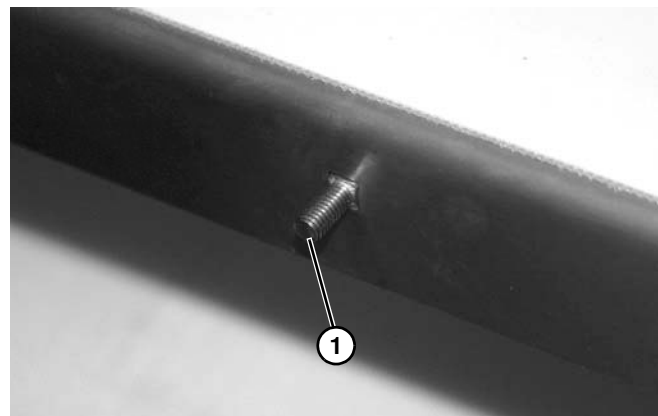

Figure 22
1. Install carriage bolt (Figure 22, item 1) through square hole in conveyor frame.